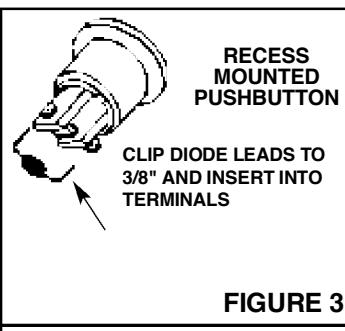

FIGURE 3
2. **Refer to Figures 3, 4 and 5.** Depending upon which type of pushbutton is being used, wire the diode to the two (2) terminals on the pushbutton.